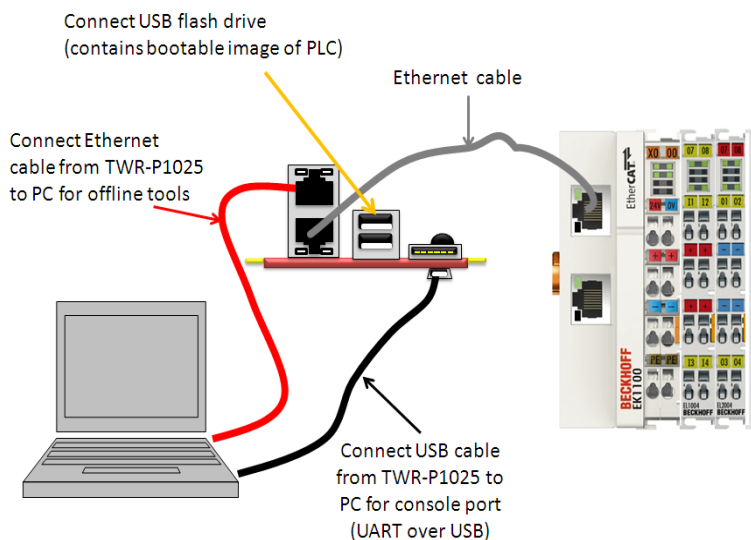

Figure 6. Required data connections
- Establish data connections between the target slave devices, TWR-P1025 and the Windows PC. Note that Figure 6 shows only the data cables.